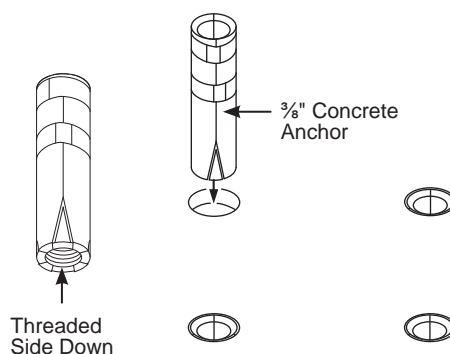

Fig. 4
4. Insert one anchor into each drilled hole (Figure 4). The threaded end of the anchor must be inserted into the hole first. Use a hammer to tap the anchor into place, if needed. Ensure that the anchors are flush with the concrete floor.